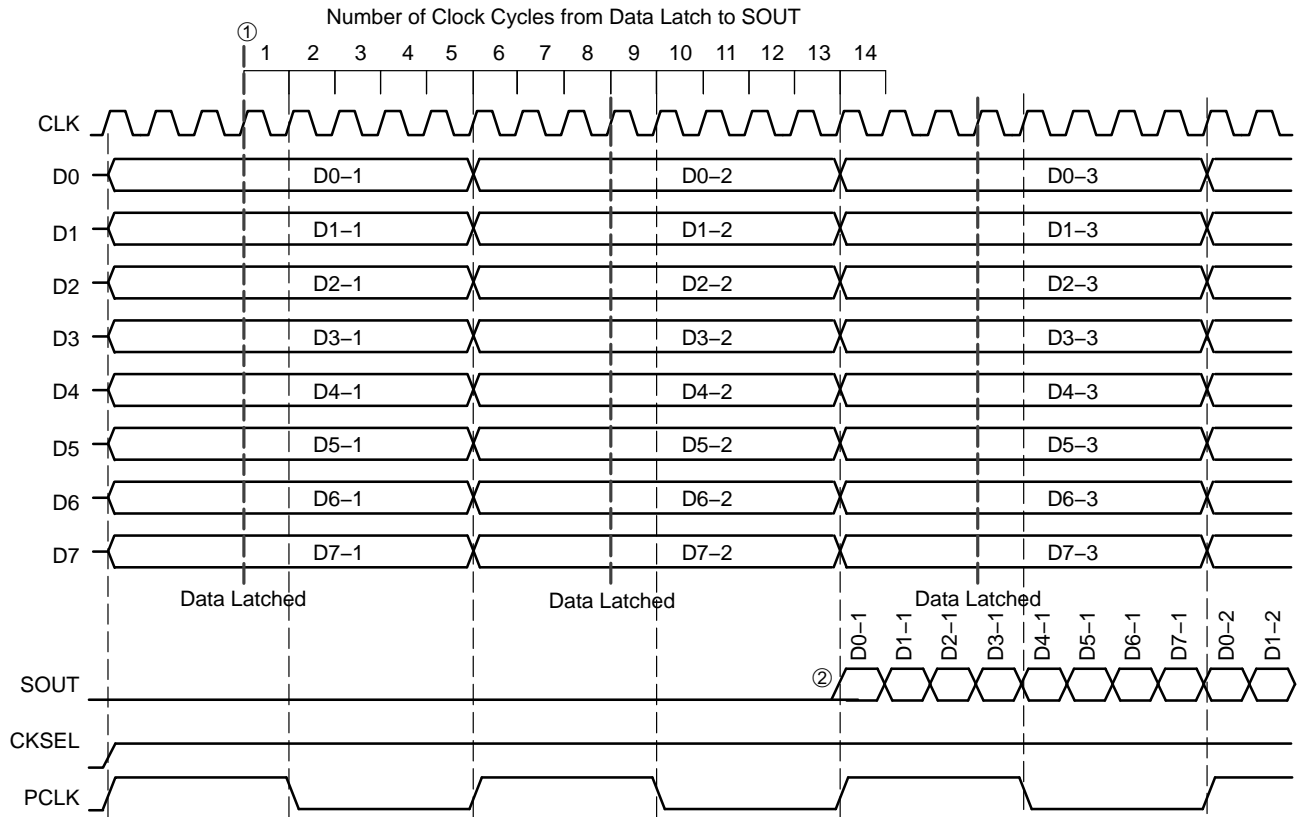

Figure 8. Timing Diagram 1:8 Parallel to Serial Conversion with CKSEL HIGH
Similarly, for CKSEL HIGH operation, the time from when the parallel data is latched ① to when the data is seen on the SOUT ② is on the rising edge of the 14th clock cycle plus internal propagation delay (Figure 8). Furthermore, the PCLK switches on the rising edge of CLK.